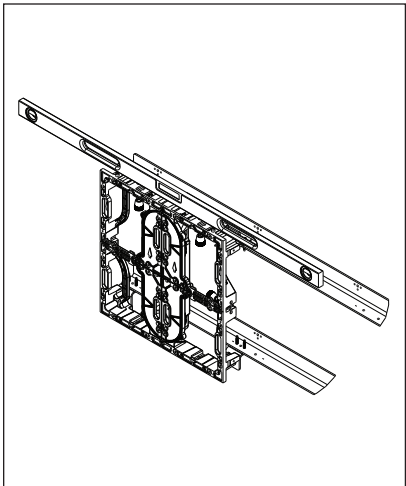
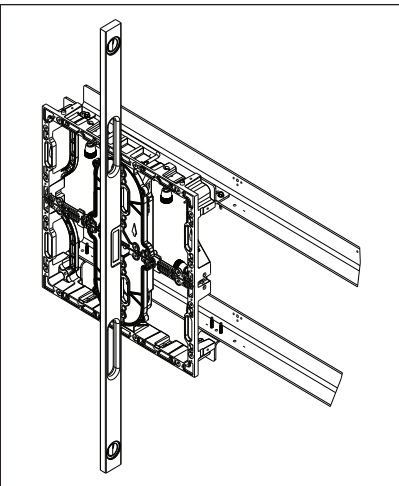

Figure 2: Level Panel
Figure 3: Plumb Panel
- c. Adjust the display panel until it is level and plumb. Refer to **Figure 2** and **Figure 3**.